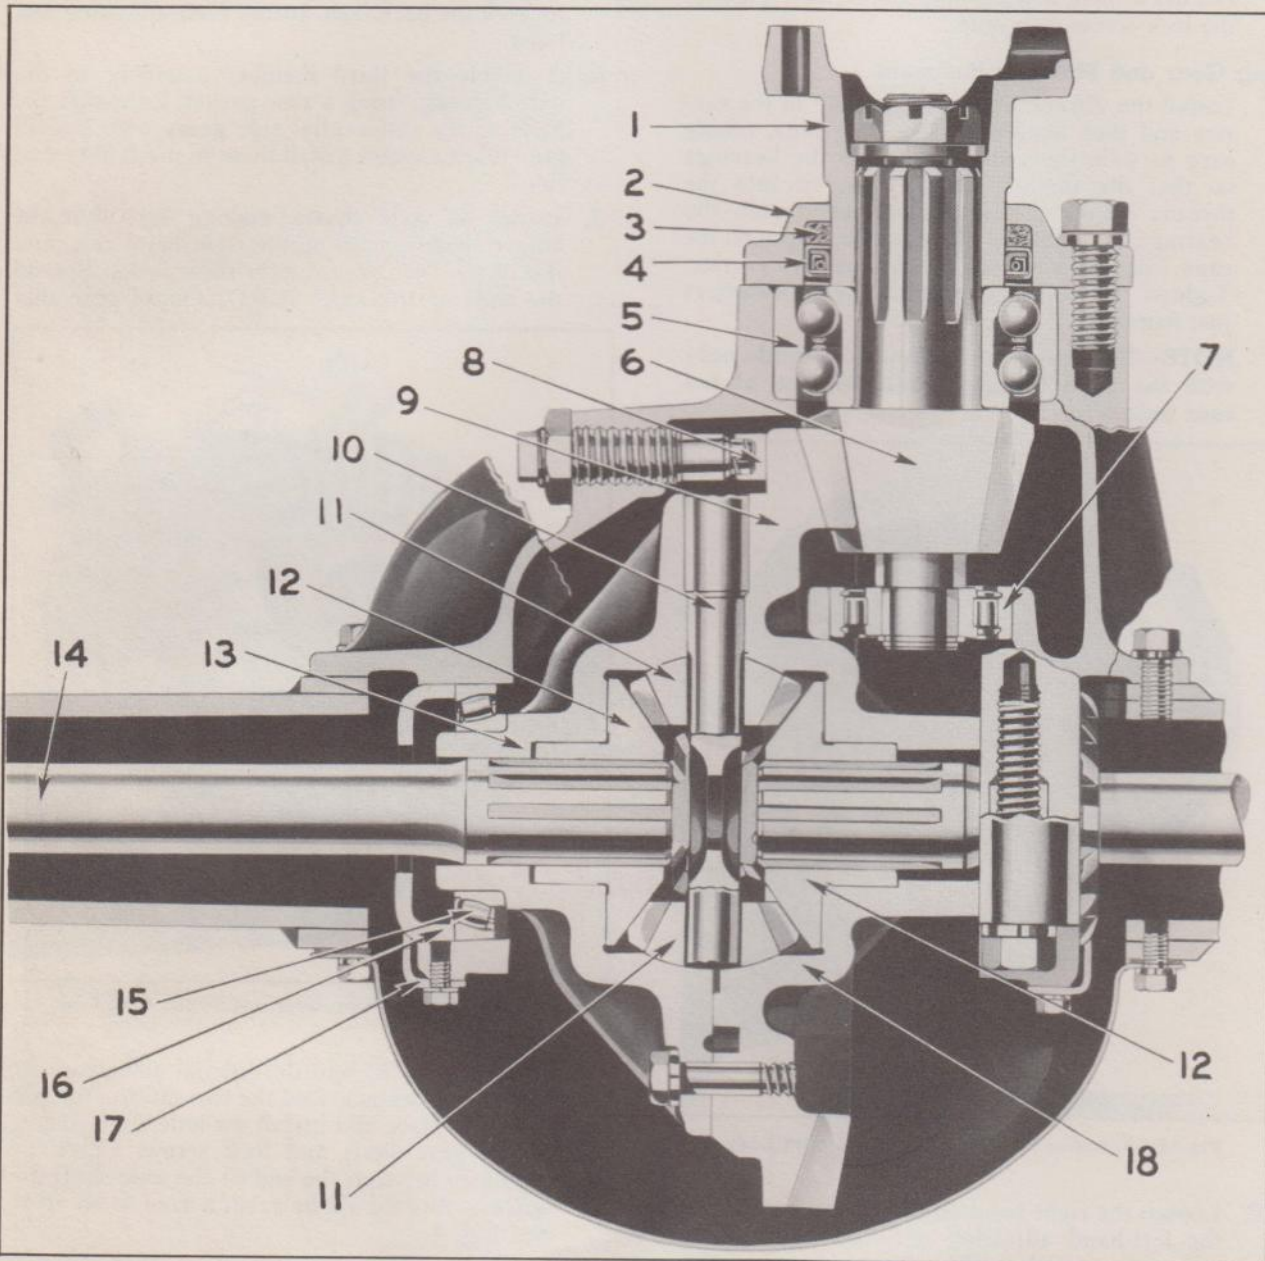

Fig. 14—1½-Ton Truck Rear Axle
The full-floating type rear axle used on 1½-ton trucks is so constructed that the axle shafts can be removed without removing the truck load or jacking up the rear axle. This axle is equipped with a hypoid ring gear and pinion, Fig. 14.
3. Slide the pinion bearing retainer and oil seal over the universal joint yoke. If replacement of the oil seal is necessary, install the felt packing toward the bottom of the recess and then the oil seal with the open end of the leather toward the pinion bearing. The oil seal should be pressed down against the felt packing, see Fig. 14.